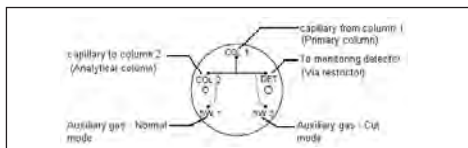

Figure 5. Identifying Deans switch port locations.
- ii. Identify the appropriate port locations marked on the back of the SilFlow™ Deans' Switch (Figure 5). Locate the appropriate SilFlow™ ferrules and nuts and prepare to connect the relevant tubing to the SilFlow™ Deans' Switch.